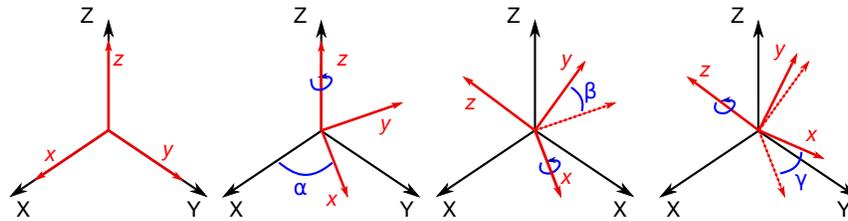

Figure 5-4. A rotation represented by Euler angles (α, β, γ) using $\mathbf{Z}(\alpha)\mathbf{X}(\beta)\mathbf{Z}(\gamma)$ intrinsic rotations.
2. **Local Coordinate Systems.** It is possible to have the ICFD parts or ICFD_PART_VOLs rotate around the global reference frame but also to define and use a local reference frame by defining its point of origin and two of its vectors $\mathbf{v}_1 = (X1, Y1, Z1)$ and $\mathbf{v}_2 = (X2, Y2, Z2)$. The third vector is, then, in the direction of $\mathbf{v}_1 \times \mathbf{v}_2$. See Figure 5-4.